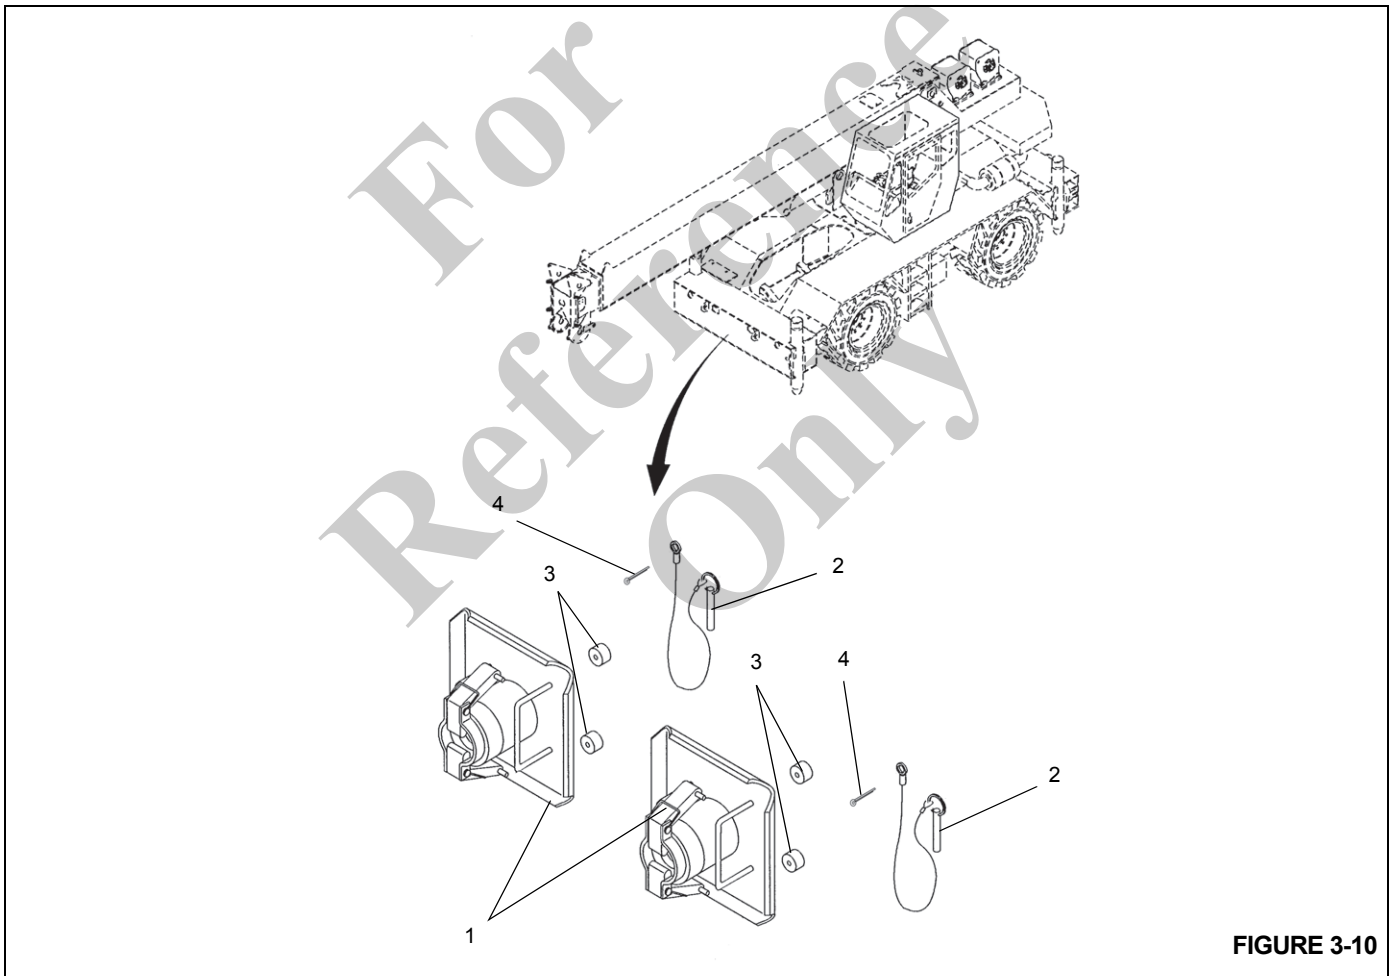

FIGURE 3-10
- After all outriggers have been fully retracted, stow the outrigger floats (Figure 3-10).